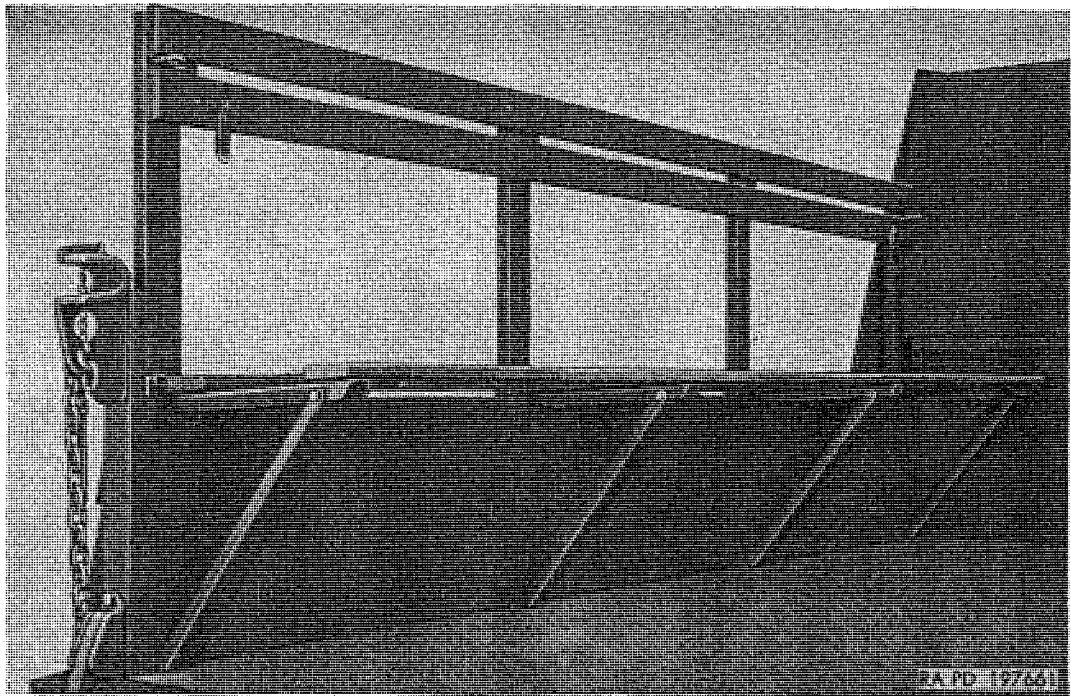

Figure 51. Side racks and troop seats installed.
e. Use of Side Racks. Side racks with integral troop seats can be positioned in body as illustrated in figure 51.